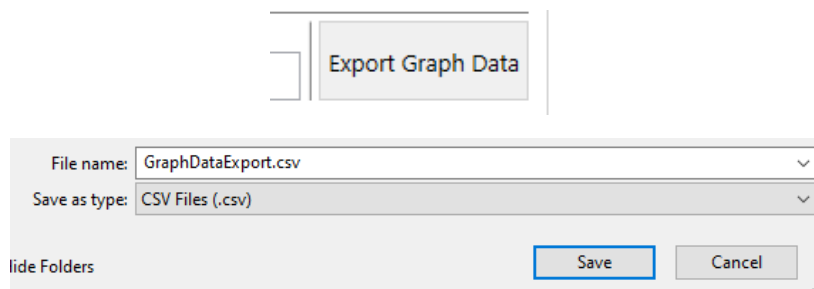

Figure 164. Save Screen Displayed Data
4. Click on the 'Export Graph Data' button (see Figure 164).